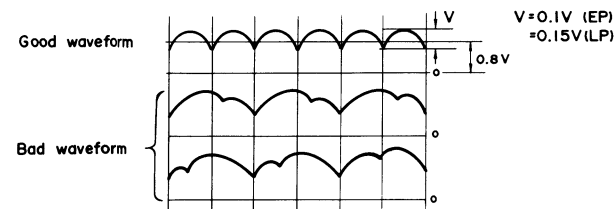

Figure 53-1
(Refer to Figures 53-1 and 54-2)
2. Adjust the semi-variable resistor (VR1101) so that good waveform indicated in Figure 53-1.